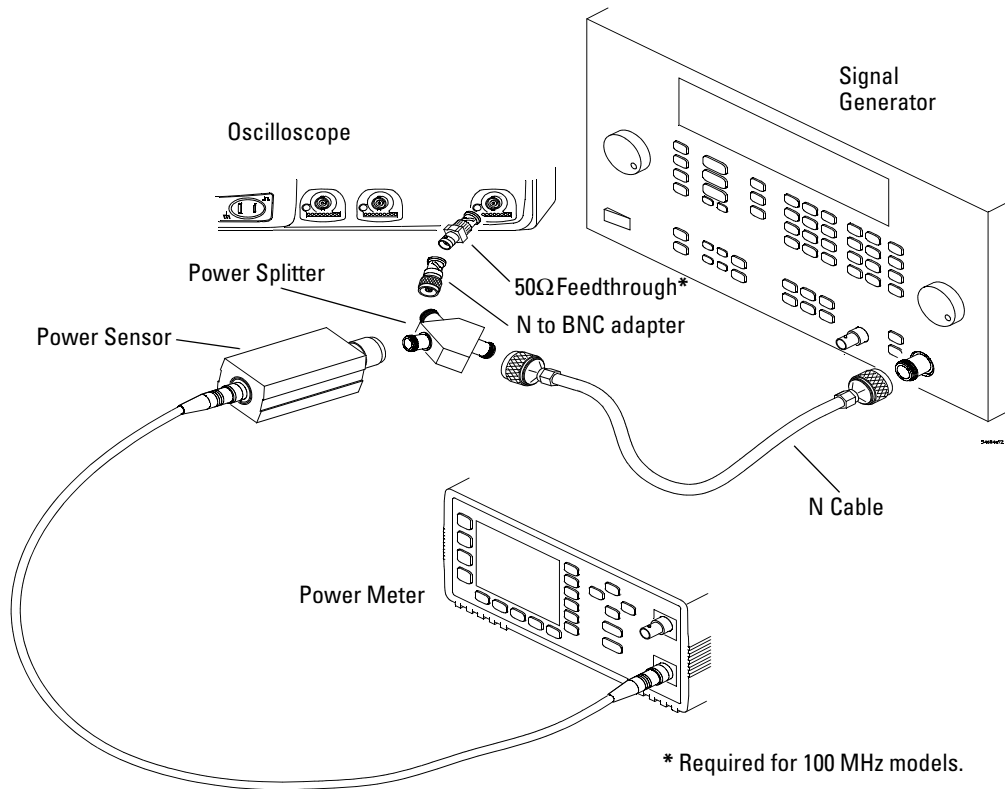

Figure 7 Connect equipment
- 1 Connect the equipment (see Figure 7).
- b On 300 MHz, 500 MHz, and 1 GHz models, set the External Trigger impedance to **50 Ohm**. 100 MHz models do not have this option, so you need to use a 50 ohm feedthrough terminator as shown in Figure 7.